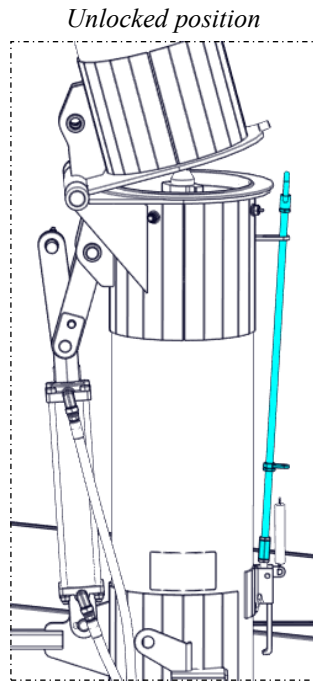

Figure 4.19
B) When unfolding the auger, check if the locking mechanism (Figure 4.19) or anything else is in the way.